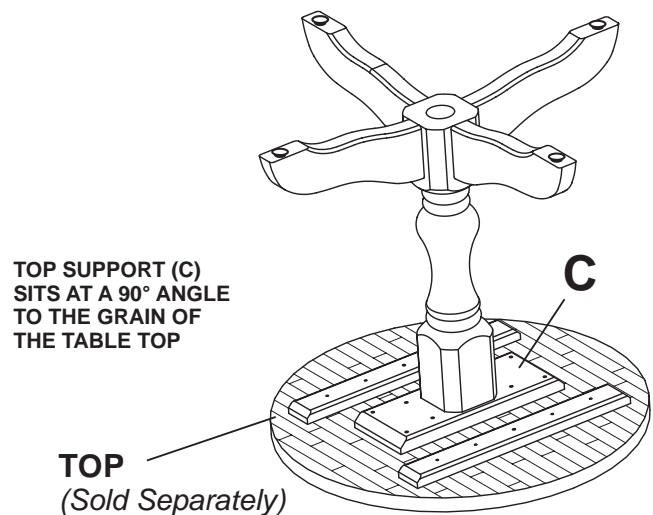

FIG. 6
- 6) Center the base on the top. It is important to make sure the direction of the wood grain in the Top Support (C) is placed at a right angle (opposite) to the direction of the wood grain of the table top (see FIGURE 6). This will prevent possible warping of the table top.